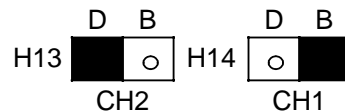

Figure 2-1 Example DTR/BO Link Settings
Links H7-H14 inclusive, control the DTR/BO setting for ports 8 through 1 respectively. The silk screen on the PCB indicates to which port (channel) any particular header applies. A header fitted in the 'Left-most' position (D) will select DTR operation, 'Right-most' (B) will select BO operation. Figure 2-1 illustrates a typical setting for ports 1 and 2 (also shown shaded in Table 2-2):
(* illustrates Figures 2-1 and 2-2)